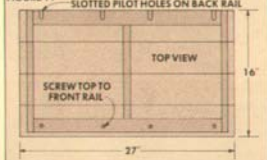

FIGURE 12
**THE DRAWERS.** We've given the dimensions of the drawers in Fig. 12. The procedure for building them is described in detail on the next page.